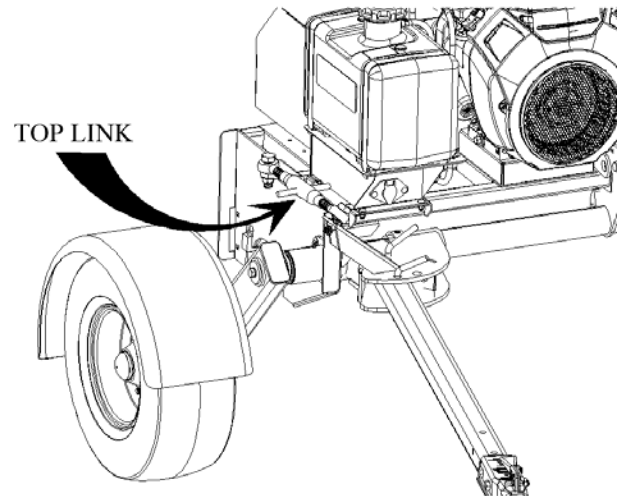

Figure 9. Leveling Aera-vator
3. Rotate the top link as necessary to level the machine, Figure 9.